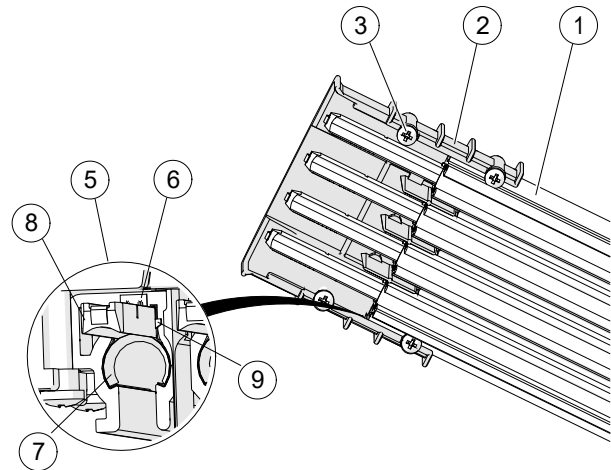

Fig. 15: Detailed view pin side
- Connecting pins and connecting clamps are existing and in the same position (see Fig. 10, item 1 and Fig. 15, item 6),